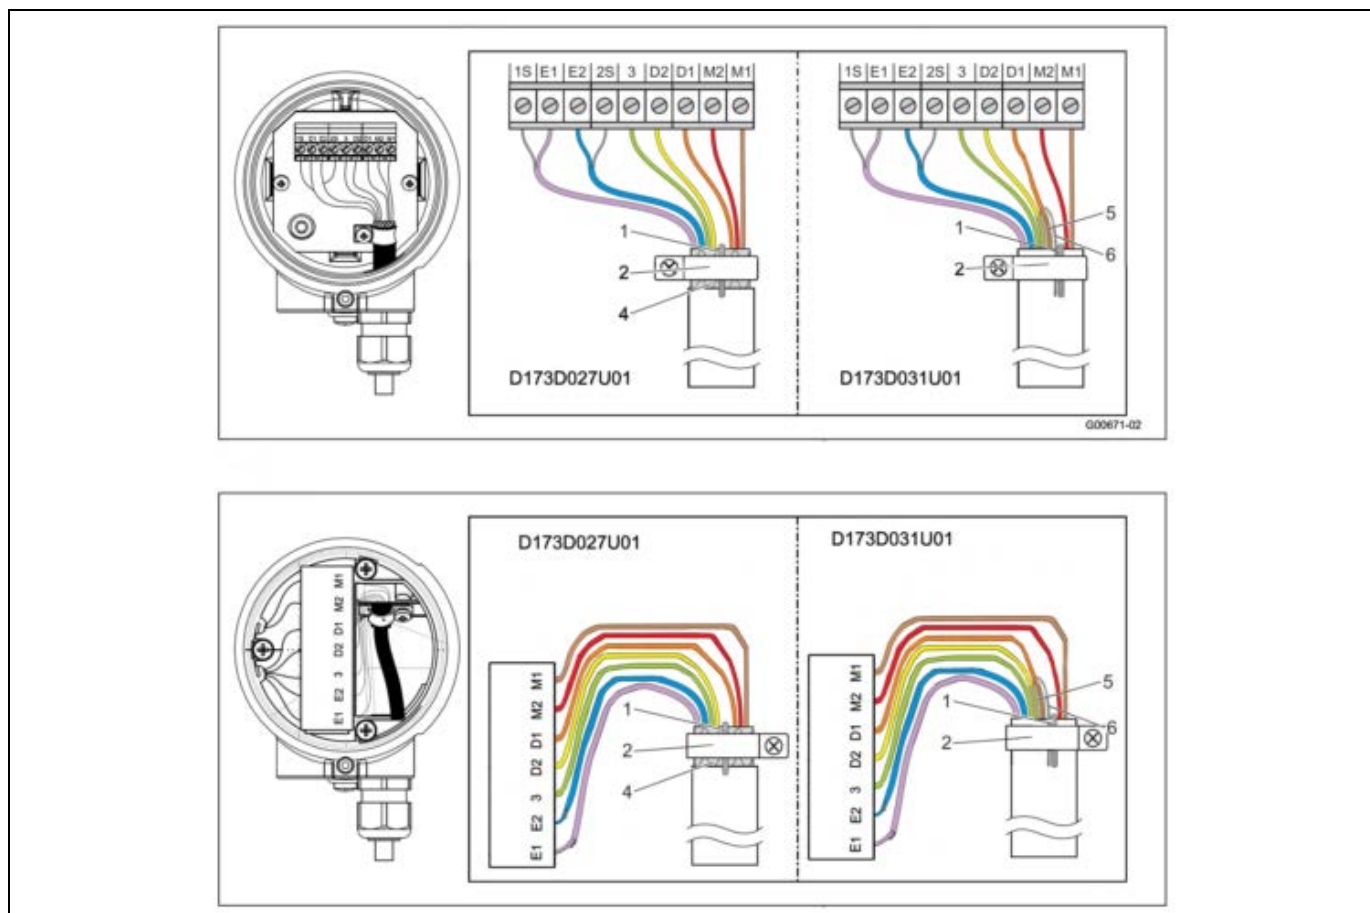

Fig. 28
- Connect all other wires as shown in Fig 28.